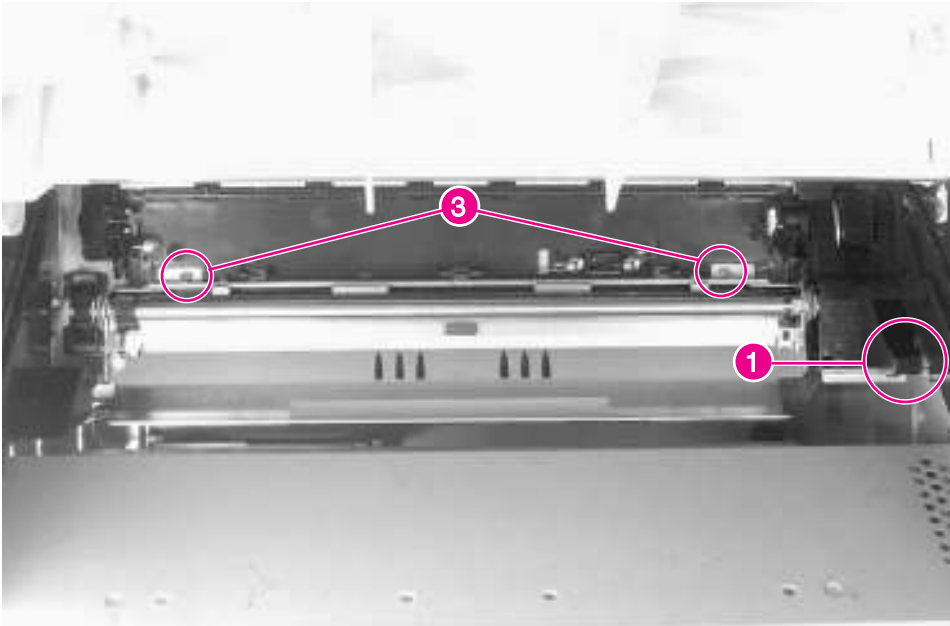

Figure 6-51 Registration Assembly (1 of 3)
- 3 Remove the Main Gear Train Shield. Release the retainer clip (figure 6-51, callout 1), and lift the forward end up.
- 4 Remove 2 screws at rear of assembly (figure 6-51, callout 3).